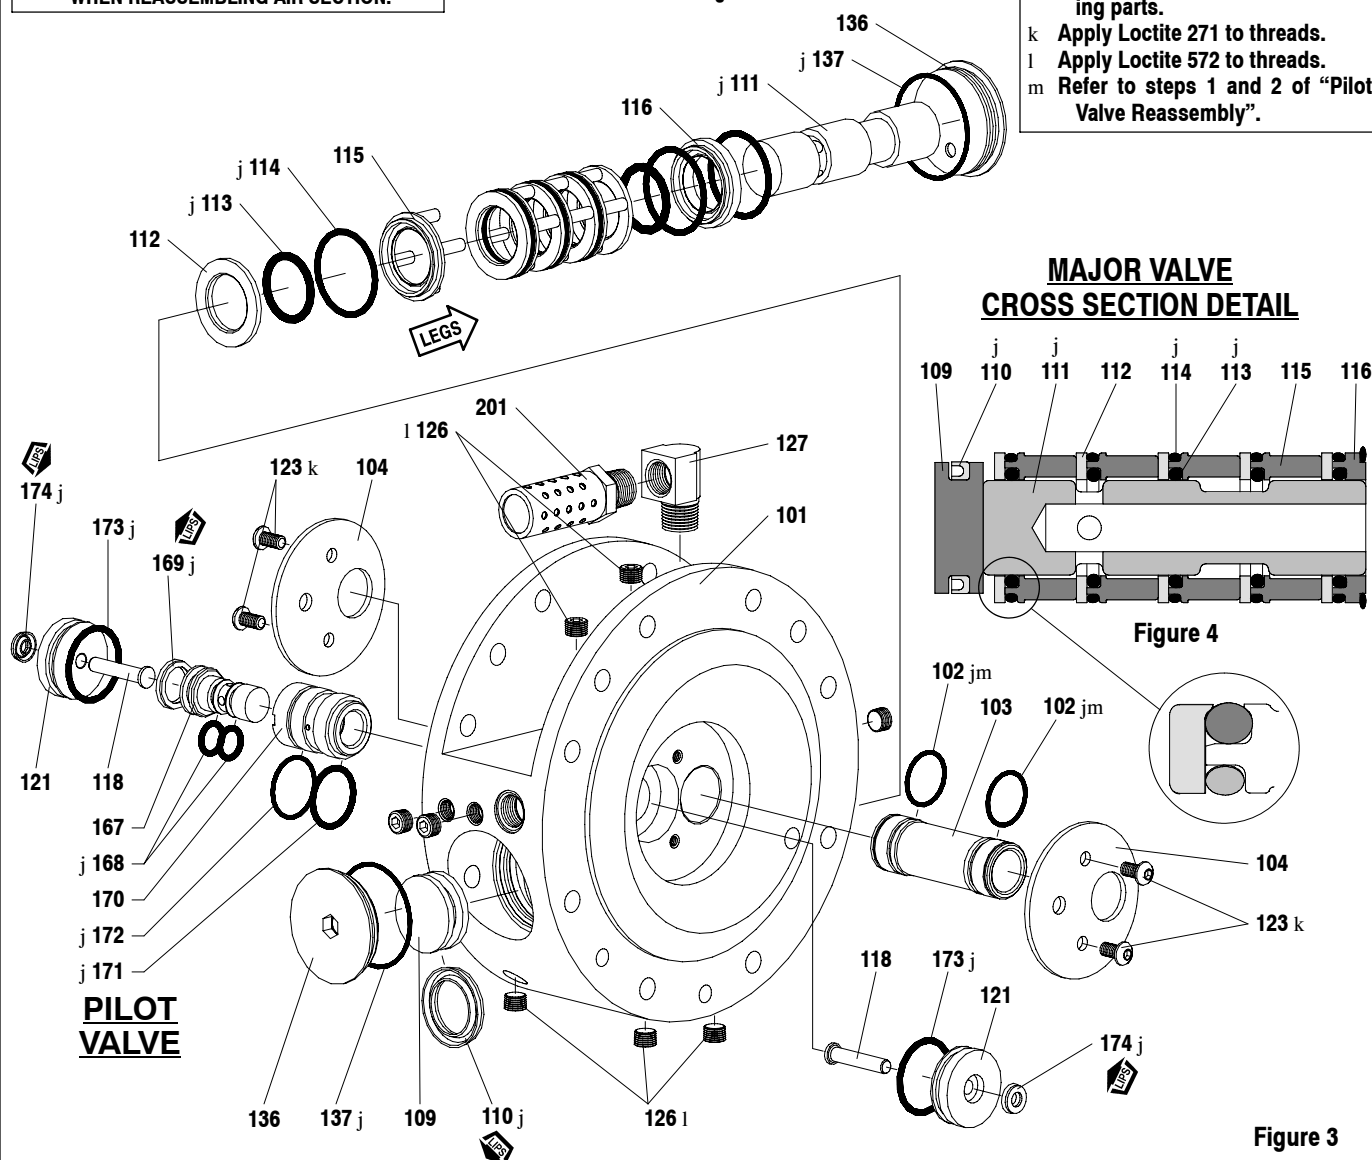

Figure 3
- NOTE:** Both outer pump Fluid Sections must be removed to access the Pilot Section parts (see figure 3, page 7).
- Remove two (123) screws and (104) plate from both sides of the (101) motor center body.